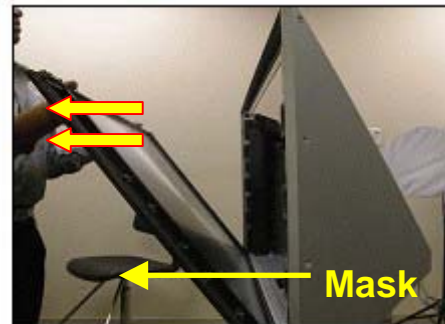

Figure 10
Step 3 – Unsnap and lift the **Mask** and screens out. See figure 10.